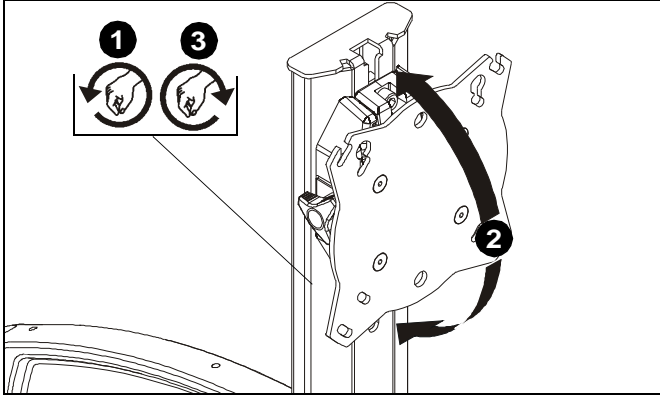

Figure 17
1. Loosen knob on side of center faceplate assembly. (See Figure 17)
2. Adjust pitch as desired. (See Figure 17)
3. Tighten knob to secure desired pitch position. (See Figure 17)